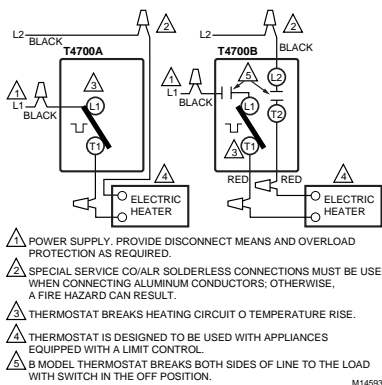

Fig. 1. T4700A,B Thermostat typical hookup.
5. Attach thermostat wires with solderless wire connectors approved for the size and number of wires to be connected. Be sure that all wire connectors are tight. See Fig. 1.